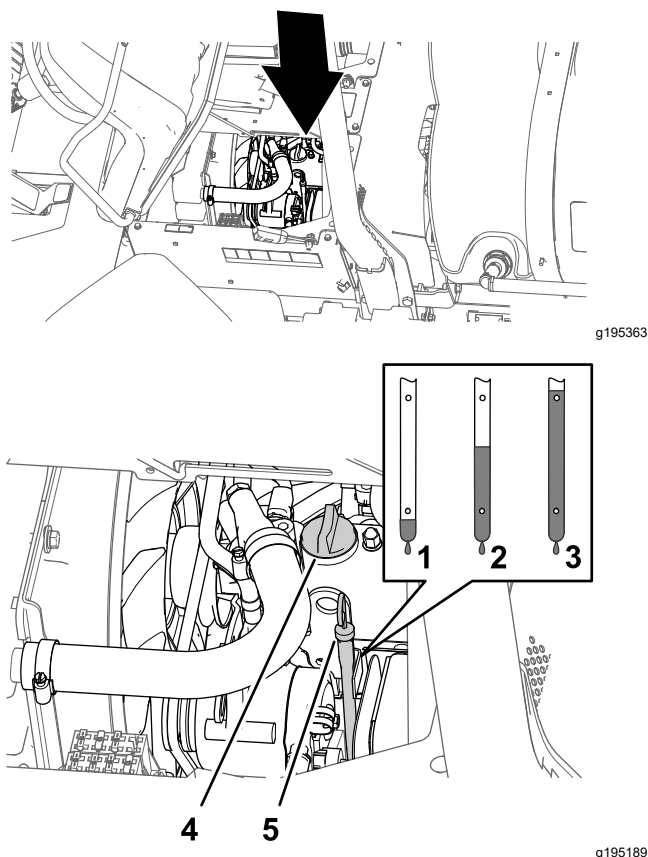

Figure 66
3. If the oil level is low, remove the filler cap from the valve cover (Figure 66) and pour oil into the filler neck until the oil level is up to the Full mark on the dipstick.
4. Install the oil-filler cap (Figure 66).
5. Install the dipstick firmly in place (Figure 66).
2. Remove the dipstick, located under the passenger seat, and wipe it with a clean rag (Figure 66).